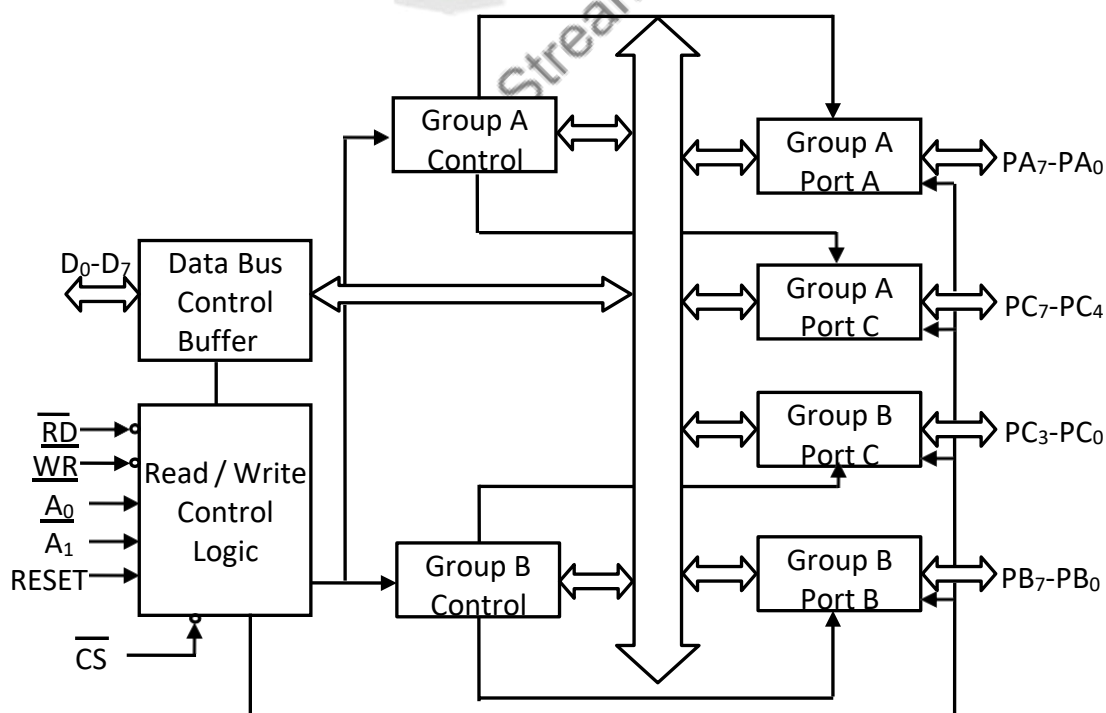

Fig.3.1 : PIO 8255 Internal Architecture
**PIO 8255 (Programmable Input Output Port):** The IC 8255 is programmable peripheral input output port through which the peripheral devices can be connected to communicate with 8-bit or 16-bit Intel microprocessor. It has 24 input/output lines. These lines are individually programmed in two groups of 12-lines each named as group-A and group-B. Each of these groups consists of subgroups of 8-bit port and a 4-bit port. The group-A consist of 8-bit port-A ( $PA_7-PA_0$ ) and 4-bit upper bits of port-C ( $PC_7-PC_4$ ). The group-B consist of 8-bit port-B ( $PB_7-PB_0$ ) and 4-bit lower bits of port-C ( $PC_3-PC_0$ ). All the three ports can be used as individually either as input or as output ports. These ports can be programmed using its internal register called control word register (CWR). The internal architecture of IC 8255 is as shown in Fig.3.1 below.